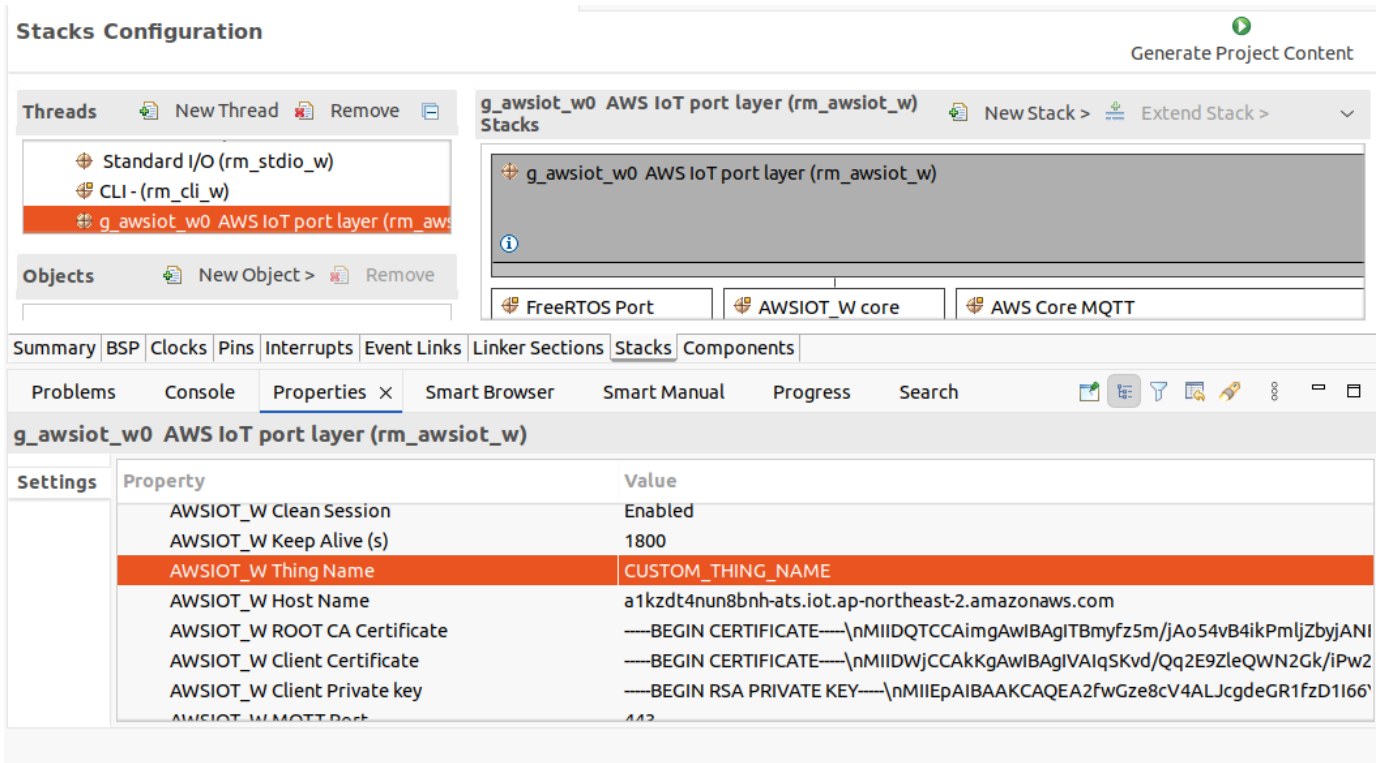

Figure 3. AWSIOT Thing Name change in e2studio
3. Click **Generate Project Content**. This action updates the macro `AWS_IOT_THING_NAME` in the `rm_awsiot_w_cfg.h` file, see Figure 3.